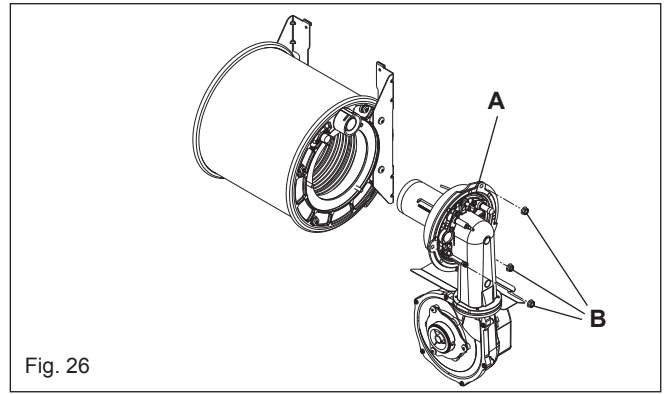

Fig. 26
**Fig. 26:** To remove the fan burner assembly (A) locate and remove the 3 external nuts (B). Replace in the reverse order. Ensure all seals are in good condition, taking care to ensure they are replaced correctly.